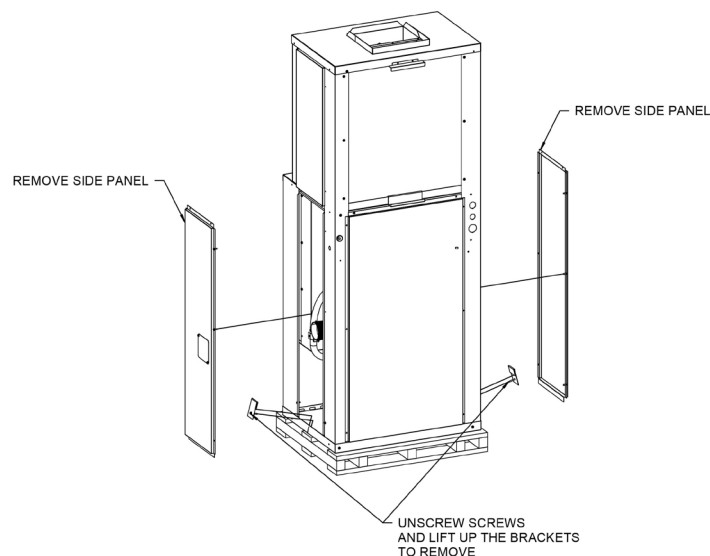

Figure 2 - Shipping Bracket Removal
- 10) Ensure that shipping brackets and screws are removed from condensing section. Refer to **Figure 2 – Shipping Bracket Removal**